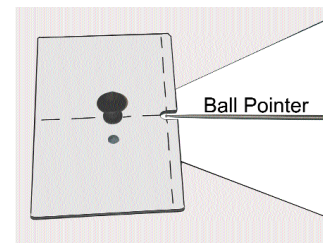
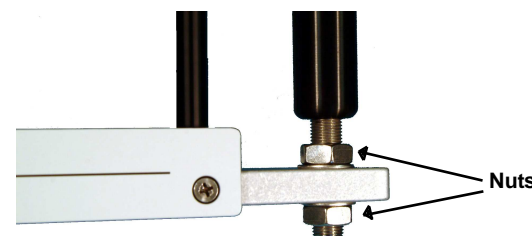
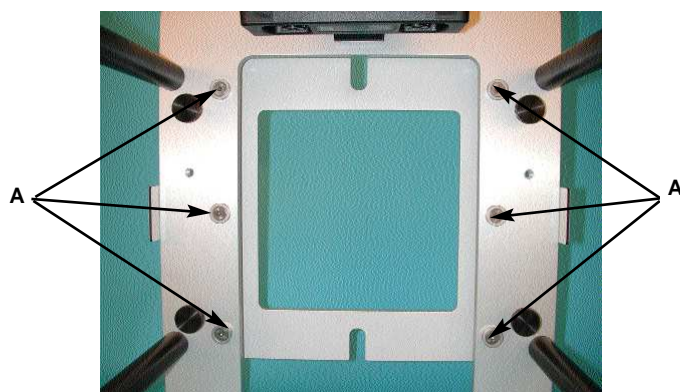
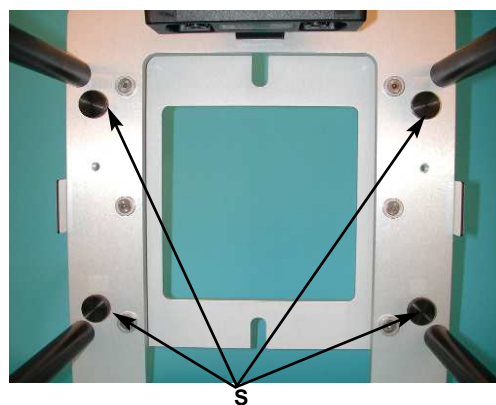

Figure 9
Figure 10
Figure 11
Figure 12
- **Insertion:** Plate P1 should be inserted into the slot at the bottom of GARD and locked in place with the spring plunger (Figure 8). (The direction of insertion of the Plate P1 should be as shown with its open side facing the pointer at the isocenter.) The cross-hair alignment plate should be snapped onto Plate P1 (Figure 9). GARD can then be inserted into the collimator head with the open side of the Plate P1 facing the ball pointer at the isocenter. (Be careful not to disturb this pointer!) Stop when closely approaching the ball pointer.
- **Adjusting/Verifying Height (Z):** If GARD is accurately aligned with respect to the isocenter; the pointer will be precisely in the center of the cross-hair alignment plate on Plate P1 (Figure 9). If necessary, the height of Plate P1 can be changed by making use of the height adjustment support rods. The nuts (Figure 10) at the bottom of these rods can be loosened and the height of the frame adjusted by turning the large hex nuts. During this adjustment, the user should make sure that the plate is perfectly level by resting a suitable level on the plate P1.
The X-Y direction of GARD should also be at the center of the open cross hair alignment plate on Plate P1 coinciding with the ball of the pointer and the cross hairs. This can be adjusted, if necessary, by means of the six bolts "A" (Figure 11), at the top of the GARD. Alignment of the accelerator cross hair shadows with the engraved center lines should be observed and maintained. The above procedure is continued until the cross hair alignment plate is in perfect alignment with respect to the pointer and cross hairs (Figure 9). The ball pointer can now be removed. The GARD should be tightened against the collimator head faceplate with the four nylon-tipped screws at "S" (Figure 12). Remove Plate P1 and insert film cassette holder. The accelerator cross hair shadows should align over the cassette engraved center lines.